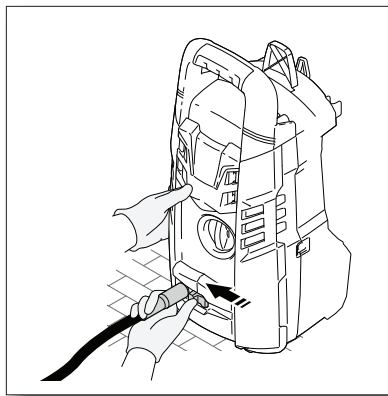

Fig. 2
- Lock it into place by sliding locking mechanism into place (**Fig. 2**).